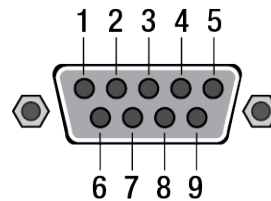

Figure 86. TLS-450PLUS RS-232 Connector Pin Outs
3. The TLS-450PLUS RS-232 connector pin outs are shown in Figure 86.